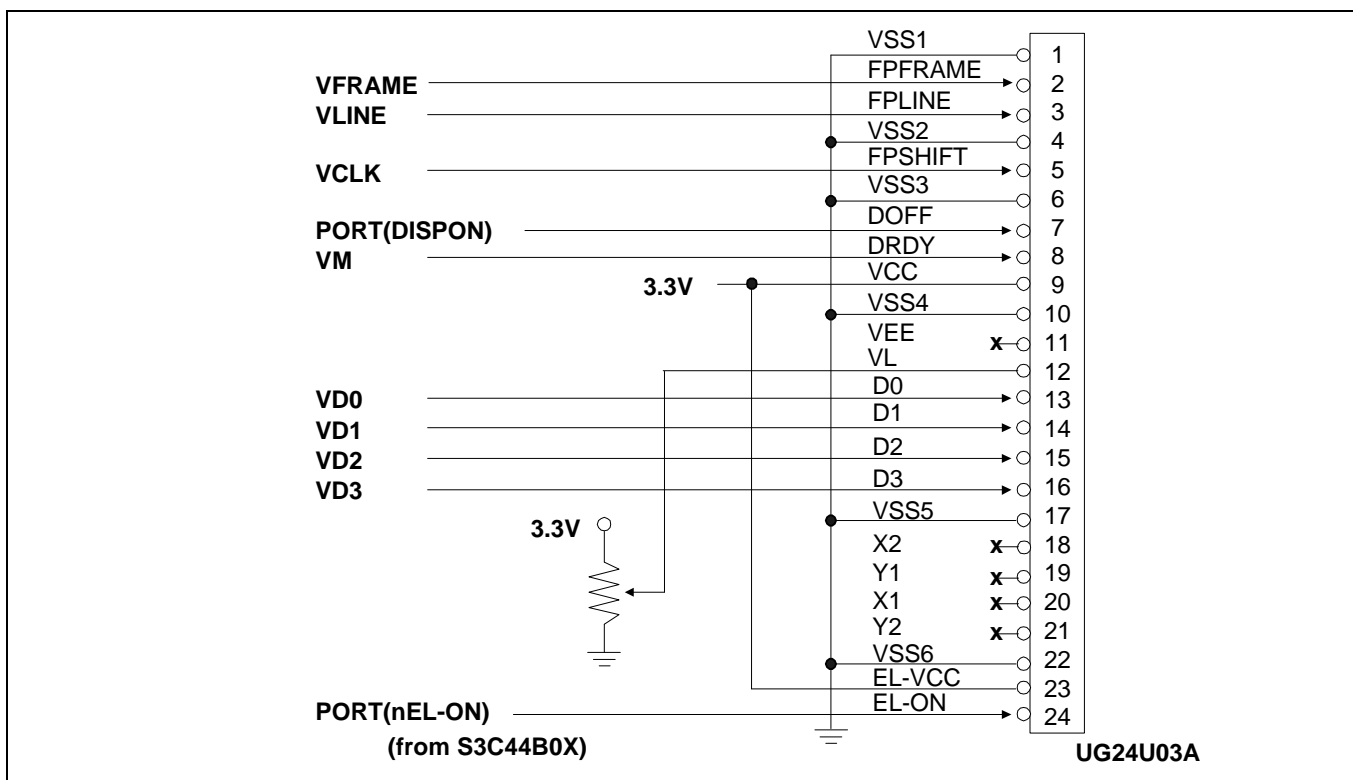

Figure 4-15 UG24U03A connection with S3C44B0X (320x240 mono STN LCD)
- UG-24U03A(320x240 mono STN LCD) from SAMSUNG DISPLAY DEVICES CO.,LTD (refer to Figure 4-15)